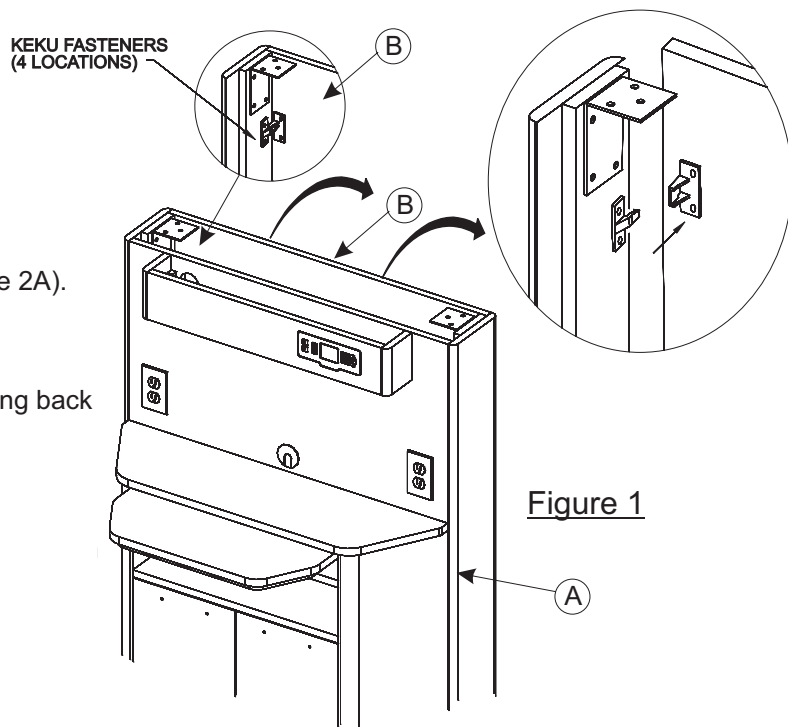

Figure 1
Remove the Back Panel (B) from the Lower Cabinet sides (A) (see Figure 1) by pulling the top of the Back Panel from the rear of the cabinet to release the upper Keku Latches and continuing pulling back to release the lower Keku Latches (4 locations).